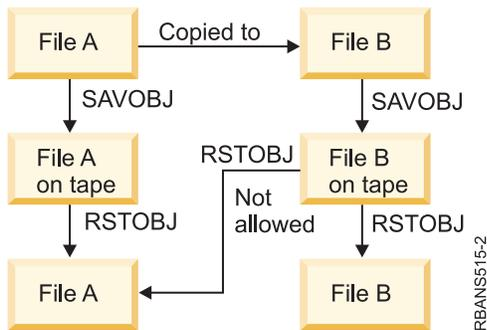

Figure 21. Restoring a copy of a file
**Unique file identification:** You can restore a file only to itself. A saved version and a copied version of the same file are not the same and cannot be used interchangeably in a restore operation. Figure 21 on page 257